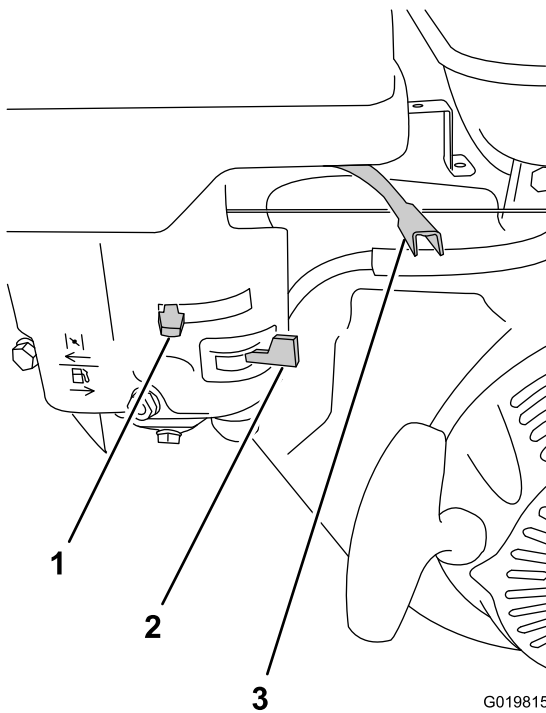

Figure 28
2. Move the fuel valve to the OPEN position, all the way to the right (Figure 28).
3. Move the choke lever to the ON position (Figure 28).